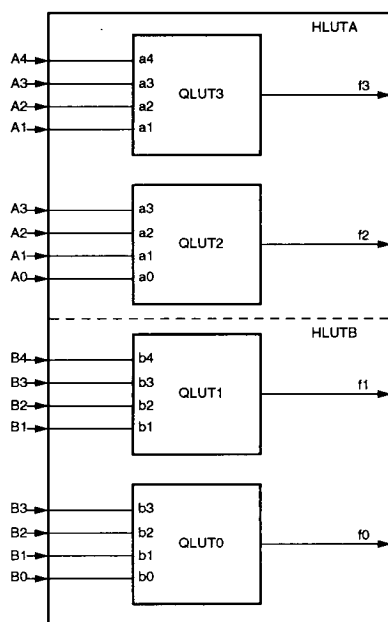

Figure 2. Four Dependent Four-Input Functions
- Each quarter LUT can be configured to perform functions of four inputs (see Figure 2). The two quarter LUTs on each side of the LUT use shared inputs as shown.